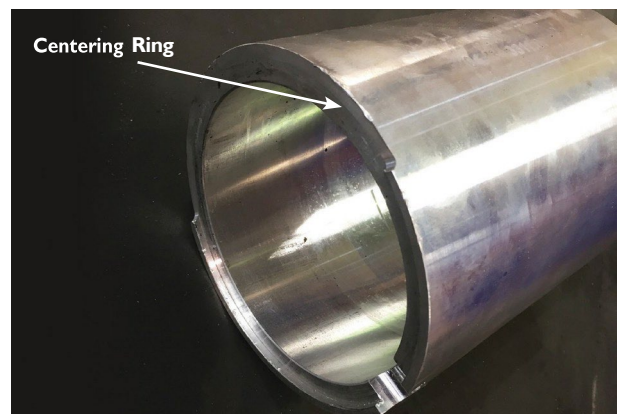

Fig. 3 - Receiver tube with centering ring
When assembling the removal tool, always make sure that the receiver tube end (5) with out a centering ring faces toward the cover plate. The centering ring (Fig.3) of the receiver tube is used to center the receiver tube on the trailing arm receptacle. When the removal tool is used, the centering ring must always face toward the trailing arm receptacle.